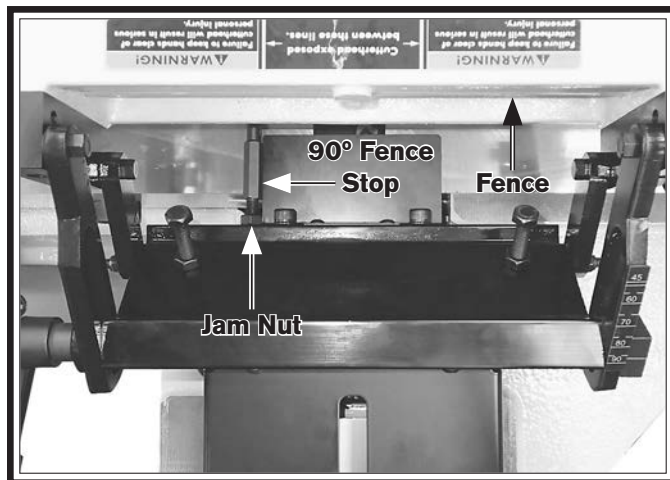

Figure 56. 90° fence stop engaged.
4. Loosen jam nut on 90° fence stop (see **Figure 56**).